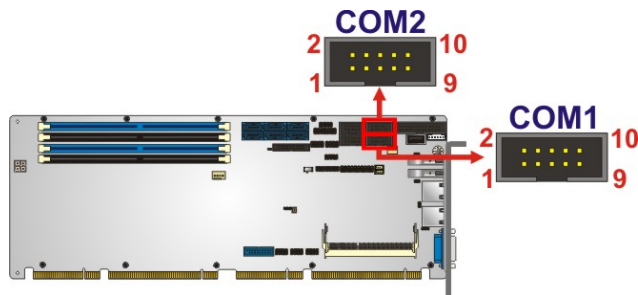

Figure 3-21: RS-232 Serial Port Connector Locations
- CN Location:** See **Figure 3-21**